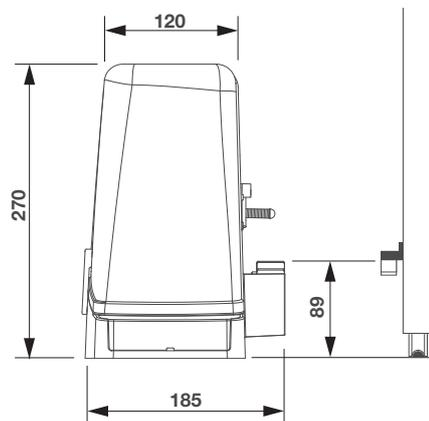
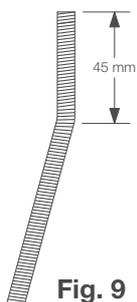

Fig.3
Fig. 9
- With reference to Fig. 3, check the maximum and minimum clearances indicated in measurements A and B.
Fig. 3 indicates the main clearance dimensions of the gear motor complete with guide.
a) if the rack is pre-installed at a measurement greater than that indicated in Figure 3, or in the case of possible water stagnation, the foundation plate may have to be raised. In this case, bend the bars at a height of about 45 mm as indicated in Figure 9.